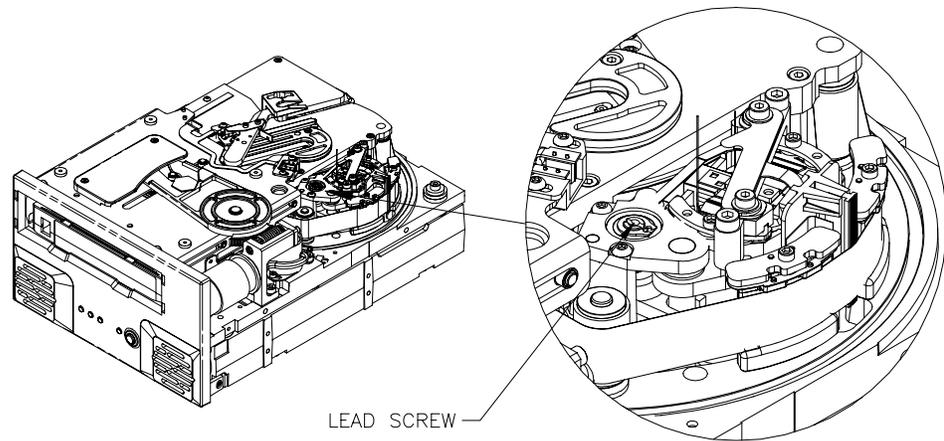

Figure 14. Diagram of Viper 200 showing lead screw (tape threaded on take-up reel)
1. Make sure the head assembly is in the lowered position by turning the lead screw (shown in Figure 14) clockwise with the flat blade screwdriver. This is necessary to allow the load arm to clear the head assembly when it is moved back toward the cartridge.